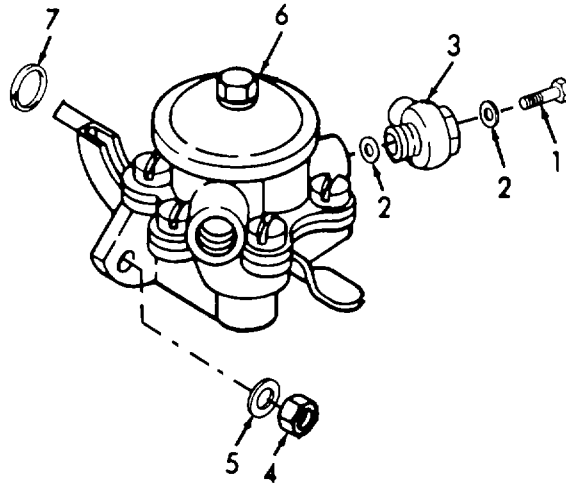

Figure 4-6. Fuel Pump Removal/Installation.
a. Removal. (Refer to figure 4-6).
- (1) Remove two screws (1), four flat washers (2), and two banjo fittings (3).
- (2) Remove two nuts (4) and two flat washers (5).
- (3) Remove fuel pump (6) and packing (7). Discard packing (7).